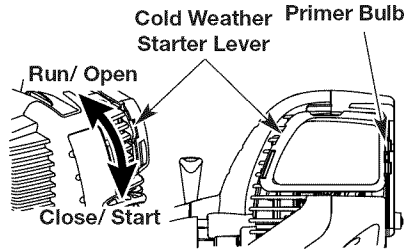

Fig. 7
**IF COLD...** For cold weather conditions (below 40°F), flip the Cold Weather Start Lever (Fig. 7) down to the start/closed position and continue to step 3. **DO NOT** flip this lever down if the temperature is above 40°F.
3. Fully press and release the primer bulb 10 times, slowly. Some amount of fuel should be visible in the primer bulb (Fig. 7). If you can't see fuel in the bulb, press and release the bulb as many times as it takes before you can see fuel in it.